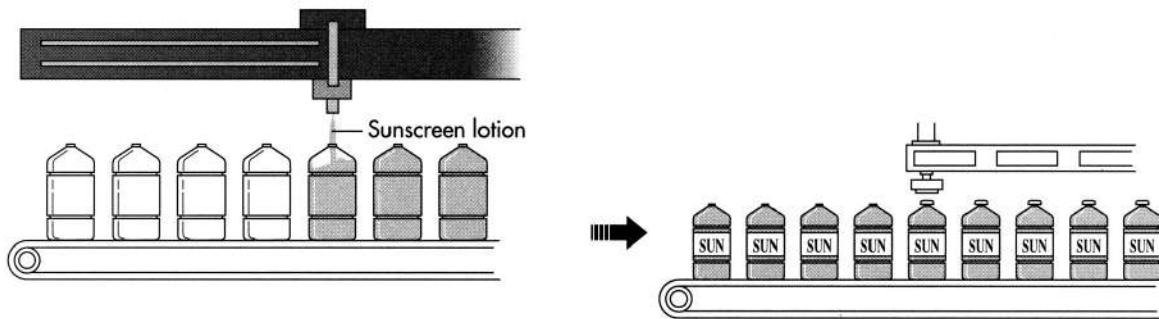

Figure 3. The lotion is filled from stainless steel piping into each container. Most containers are then capped automatically and sent to distributors.
5. Stainless steel tanks with capacities up to 1,000 gallons (3,785 L) are used in the filling process. Filling takes place in a separate, sterile room with a conveyor system of many incoming tracks. Machine operators monitor the automated process. Containers and caps enter the fill room on conveyor tracks. The sunscreen lotion flows from the vats through stainless steel piping to a pressure filling machine that inserts a retractable nozzle into each container and fills it with a measured amount of sunscreen lotion (see figure 3).